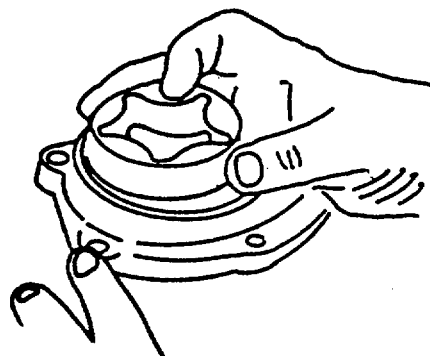

FIGURE 3-62. Inspect Gerator Planetary.
- c. Remove the gerator planetary and inspect for excessive wear or scoring (FIGURE 3-62).